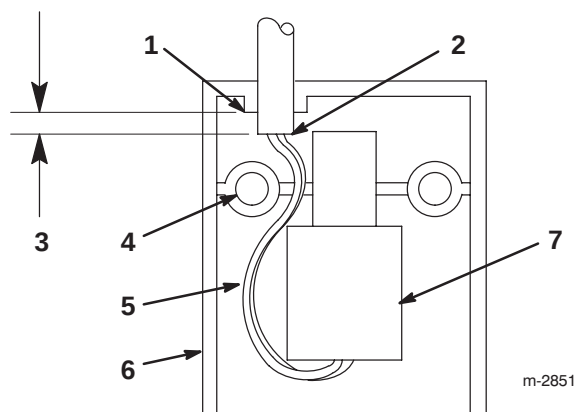

Figure 9
- Ensure that the end of the outer insulation is at least 3/16 in. (5 mm) from the inside edge of the serrated cord opening in the switch housing base (Fig. 9).